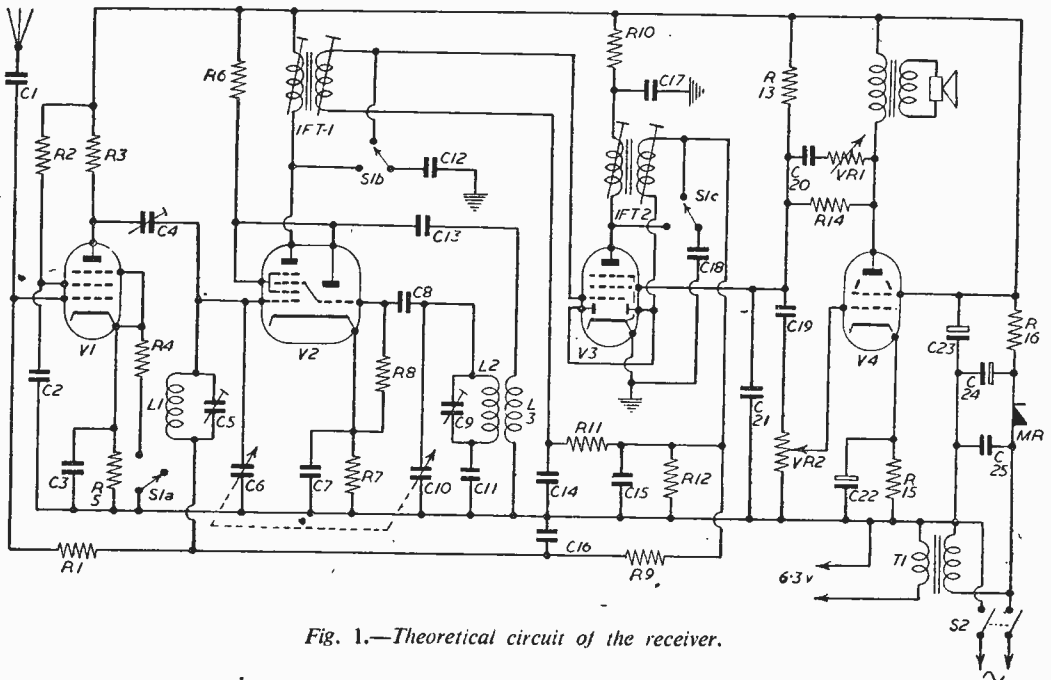

Fig. 1.—Theoretical circuit of the receiver.
**T**HE problem facing the writer was the construction of a broadcast band receiver which would give good quality and yet have simple circuitry. Primary consideration was good reproduction of the local stations, with a good selection of Continental stations. The trouble is of course, that, generally speaking, the higher the quality desired the more complex the circuitry becomes. Yet, for various reasons, components and cost had, in this case, to be kept to a minimum. Obviously, as in much radio work, the answer was a compromise. The arrangement finally chosen is shown in Fig. 1.